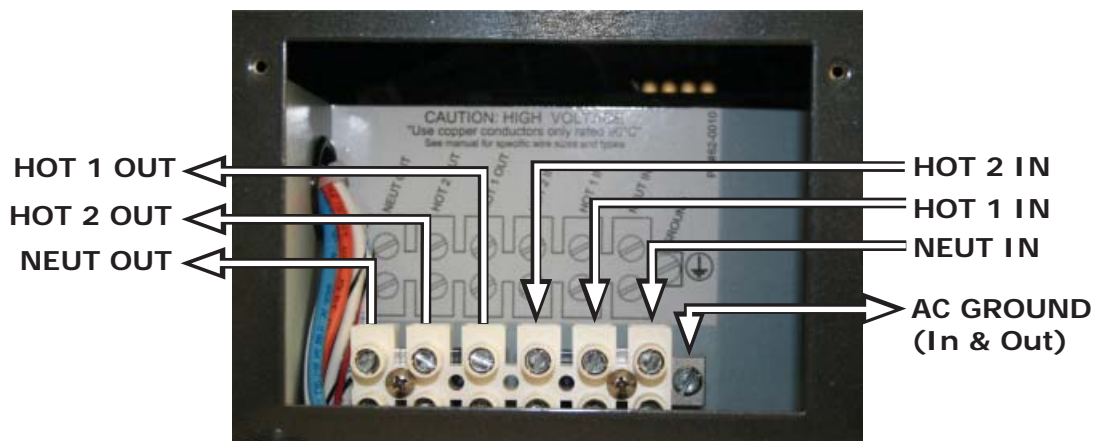

Figure 2-10, AC Terminal Block
This section provides information on how to make the AC connections to the inverter using the correct AC wire size and the corresponding overcurrent protection. The ME2012, ME2512, and ME3112 models use an AC Terminal Block (see Figure 2-10) to connect the inverter's AC input and output wiring, whereas the ME2000 models have field wiring leads (see Figure 2-16).
1. Remove the two Phillips screws on the AC Access Cover (see Figure 1-3, Item 15) to access the internal AC Terminal Block (see Figure 2-10).